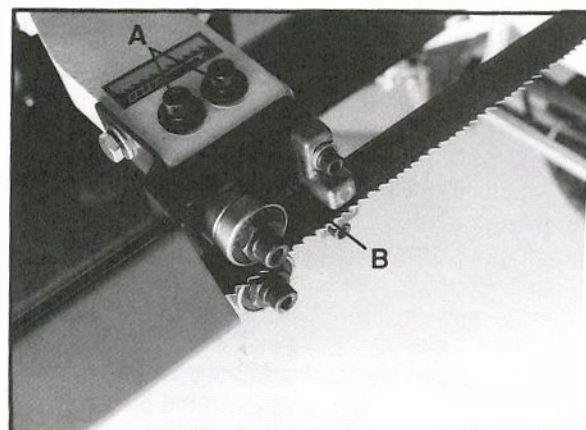

Fig. 9
2. Loosen two hex socket cap screws (A, Fig. 9).
3. Move guide seat (B, Fig. 9) up or down until a clearance of .003" to .005" between back of blade and thrust roller is obtained.
4. Tighten two hex socket cap screws (A, Fig. 9).